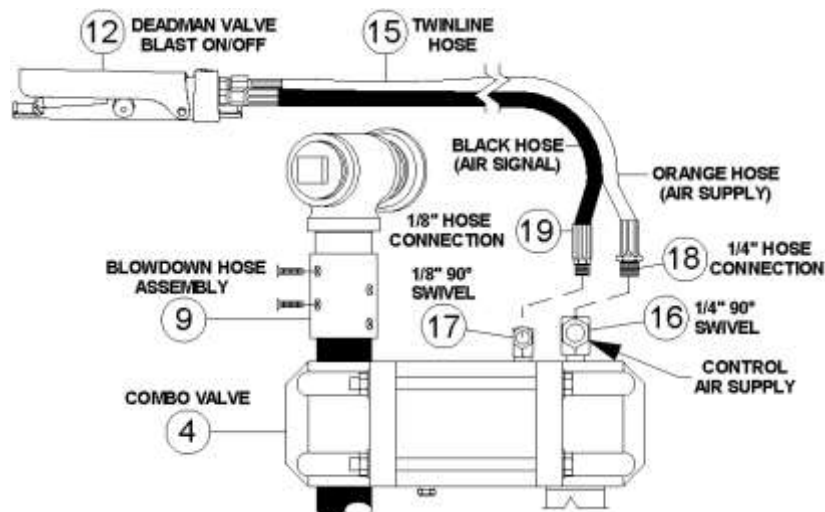

Figure 5.3 – MV3/Combo Pneumatic Deadman Blast Control System
5.8.1. Pneumatic Deadman System: When the pneumatic deadman (#12) lever is pressed down, air supply from the orange hose of the twinline hose (#15) flows into the black hose. Air flows through the black hose to the signal port of the ComboValve (#4) to open it and send air into the abrasive blaster and blast air hose. When the deadman lever is released, the air signal is cut off and the ComboValve is closed to shut off the air supply and depressurize the blaster through the blowdown hose assembly (#9). See Figure 5.3 and the drawings in Sections 9.1 and 9.2.